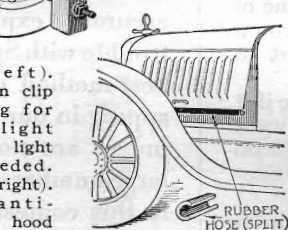

Fig. 5 (left). Wooden clip mounting for trouble light holds the light where needed. Fig. 6 (right). Simple anti-rattler for hood
**A** WOODEN clip of the type shown in Fig. 5 makes an excellent base for a trouble light. A socket of standard type should be attached to the clip as indicated. The clip will hold on to any small round object, such as a wire, or on to the edge of a sheet metal part.